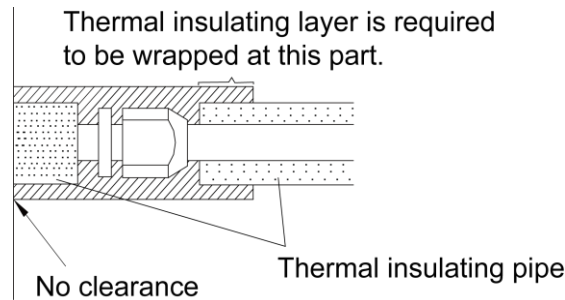

Fig.33
- 3) Joints at indoor and outdoor units should be wrapped with insulating material and leave no clearance between pipe and wall. See Fig.33.